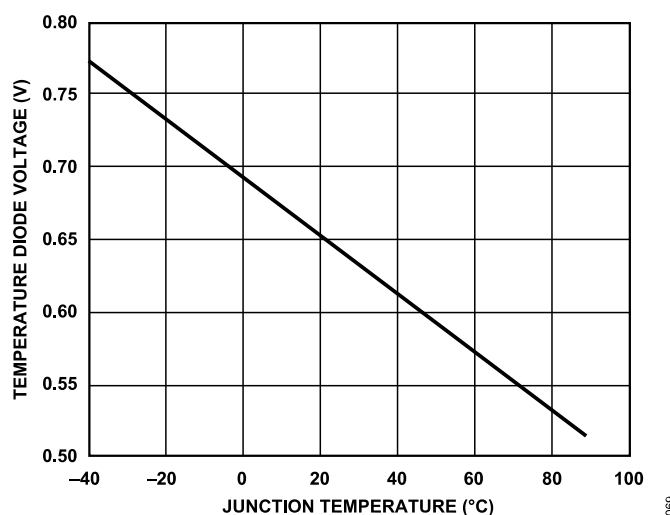

Figure 73. Typical Voltage Response of the 1× Temperature Diode
4. Set Register 0x18E6 to 0x01 to turn on voltage export of the central 1× temperature diode. The typical voltage response of the temperature diode is shown in Figure 73. Although this voltage represents the die temperature, it is recommended to take measurements from a pair of diodes for improved accuracy. The following step explains how to enable the 20× diode.